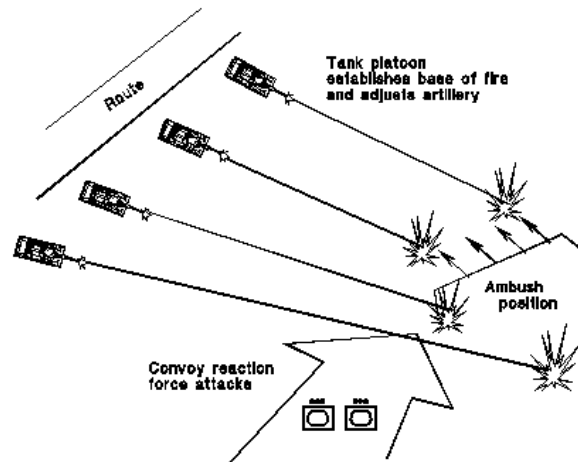

Figure 5-9A. Escort suppresses ambush for reaction force attack.
- o Continue to suppress the enemy as combat reaction forces move to support (see Figure 5-9A).